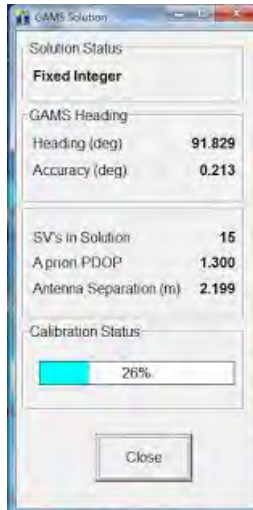

Figure 25: POS calibration status
- c. Once the EchoBoat is in the water, start the GAMS calibration (Figure 25). Move the boat conducting initially continuous circular trajectories and then straight lines with several stops (refer to Chapter 3.3 to know how to prepare the EchoBoat for the field).